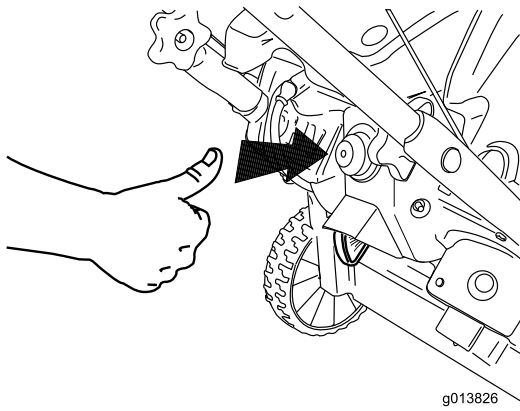

Figure 14
3. Firmly push in the primer with your thumb as indicated by the table below, holding the primer in for a second before releasing it each time (Figure 14).